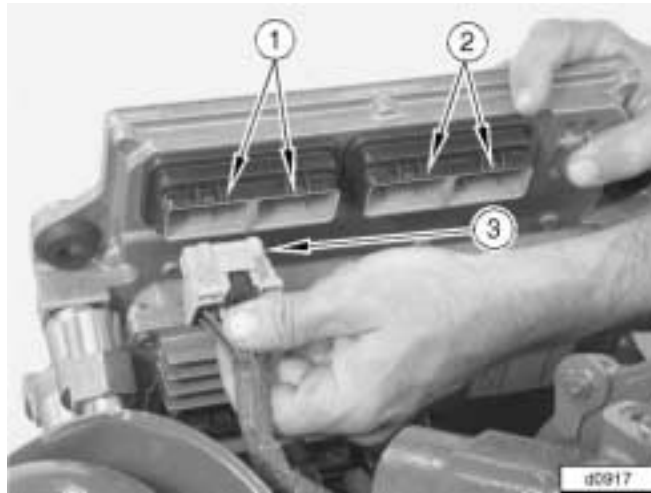

Figure 2: ECM Harness Connectors
5. Lift the IDM / ECM assembly and remove the four ECM harness connectors (item 3) from the ports shown in Figure 2, items 1 and 2. Pull the connectors straight out being careful not to bend the pins.